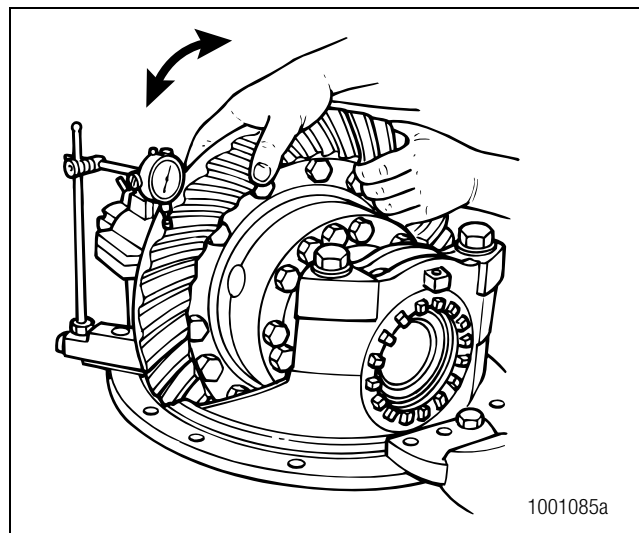

Figure 5.36
1. Attach a dial indicator onto the carrier mounting flange. Figure 5.36.
2. Adjust the dial indicator so that the pointer is against the tooth surface. Figure 5.36.